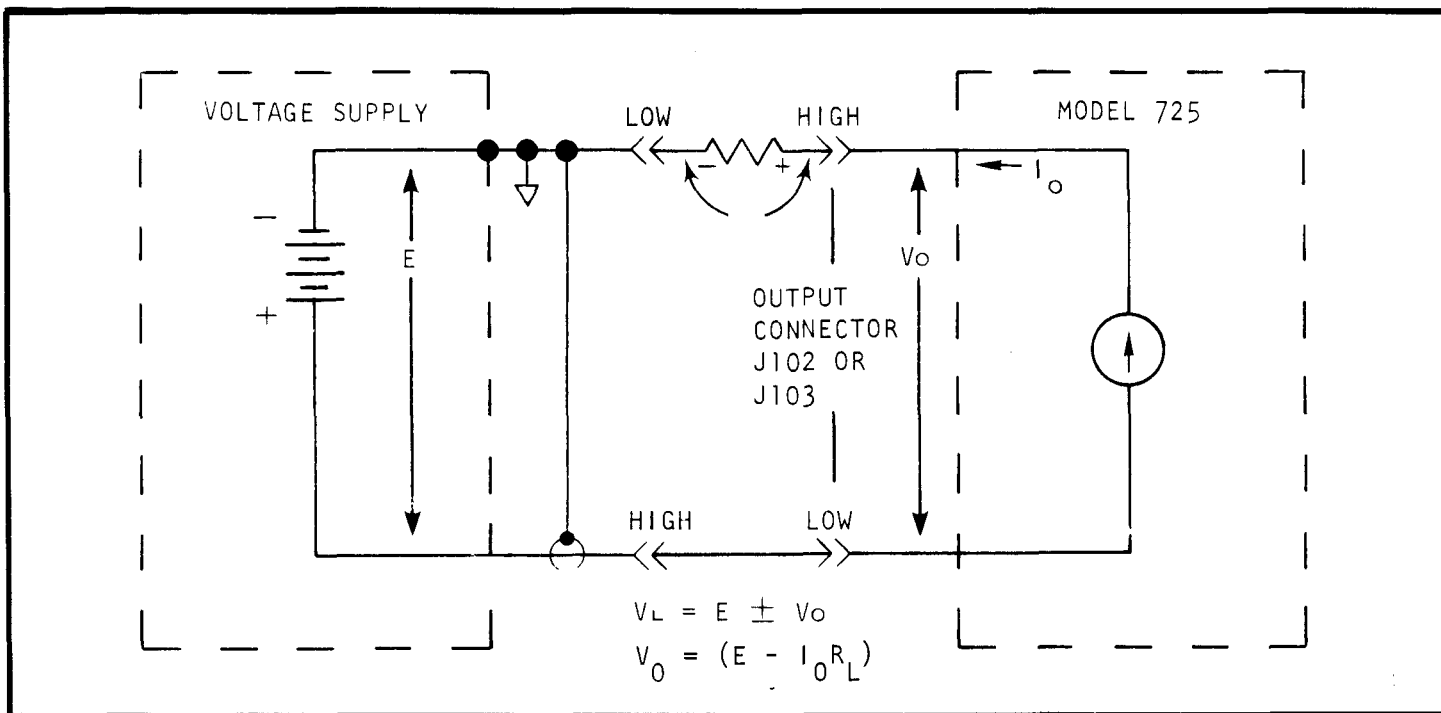

FIGURE 2-6. Floating Supply.
g. Floating Operation. The instrument can be floated up to  $\pm 100$  volts off of chassis ground with less than 20ppm of full range change in output current per volt on the 100nA range and less than 10ppm per volt on the other ranges. For floating operation, the shorting link must be removed. The outer shell of both OUTPUT connectors is always at chassis ground for safety when floating the instrument. A 5 $\mu$ F filter capacitor (C217) is connected between the LOW and chassis GROUND binding posts to minimize line frequency pickup. The LOW to GROUND isolation is approximately  $10^7$  ohms. A typical example of floating operation is shown in Figure 2-6. In this example, the Model 725 can be used with a voltage supply such as the Keithley Model 240A to extend the maximum useable compliance voltage to +200 volts (+100 + floating voltage). In this case the Model 725 can be adjusted for a compliance voltage of +100  $\pm$  100 volts dc. The maximum current is 10 milliamperes (for the Model 240A).
2. Current Sink. The instrument can be used as a current sink as shown in Figure 2-6. In this case, the polarity of the current is such that current is flowing into the Model 725. The output voltage  $V_0 = E - I_0 R_L$ , where  $I_0$  is the programmed current,  $R_L$  is the load resistance.